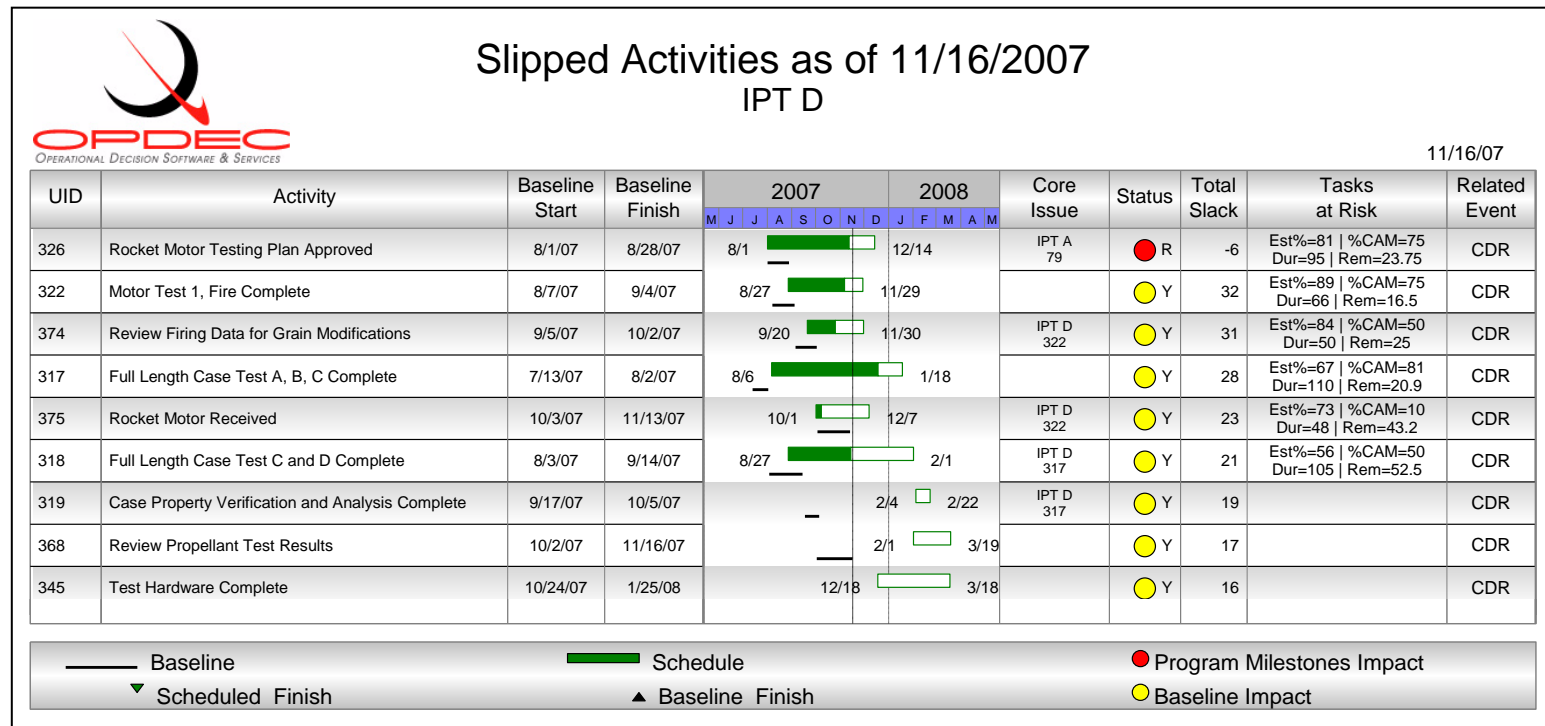

Figure 13
Slipped Activities are defined as those activities that have exceeded the planned date and may cause a delay in another activity in meeting its milestone date. Using the default Milestone Professional template ‘Slipped Activities.mtp’, the following report example was created (Figure 13).
- **Tasks at Risk:** This column indicates is the activity is considered at risk. In the example above (Figure 13) UDI 7631 is at risk because it's estimated % complete is 82 while the specified CAM % complete is only 80. Now this may not seem like a large enough variance to warrant the task at risk, but for this report our variance threshold was set to zero (see **Tasks at Risk Threshold** from the settings section). If we were to allow a variance threshold of +-5, then this activity would not have shown at risk. The Task at Risk column also shows what the duration of the task is compared to the duration remaining.